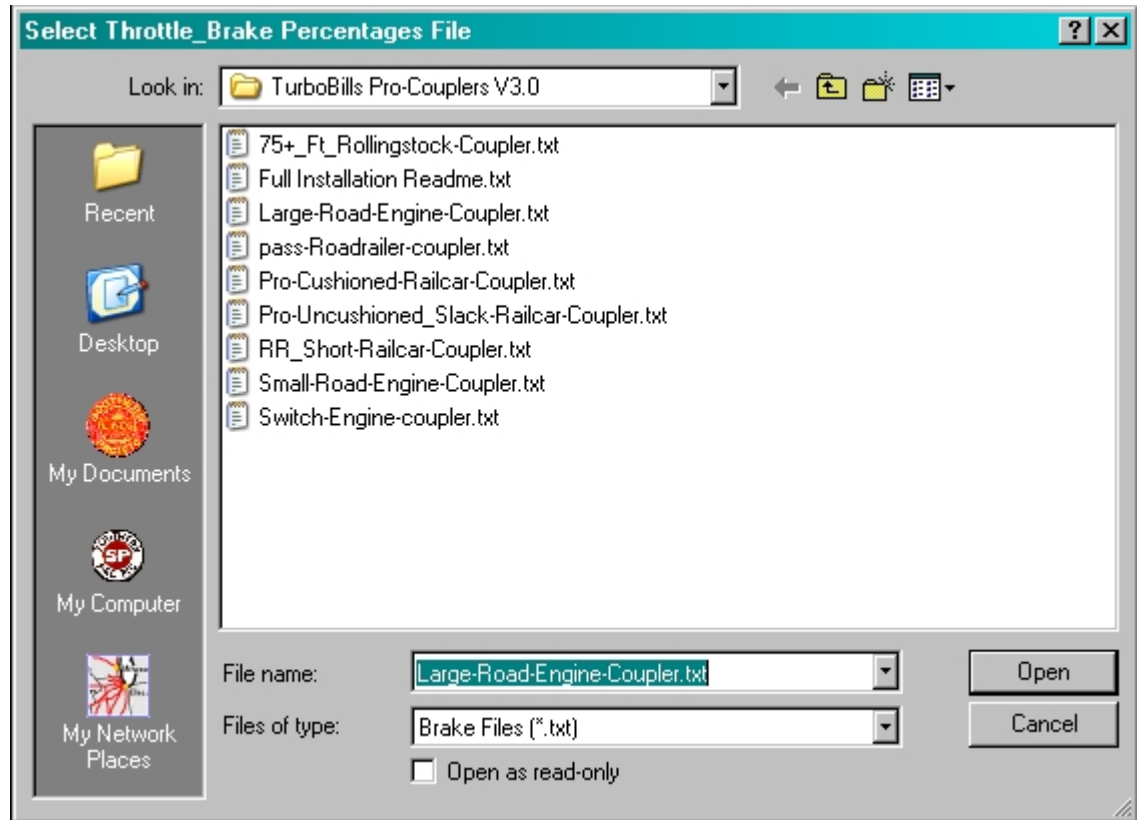
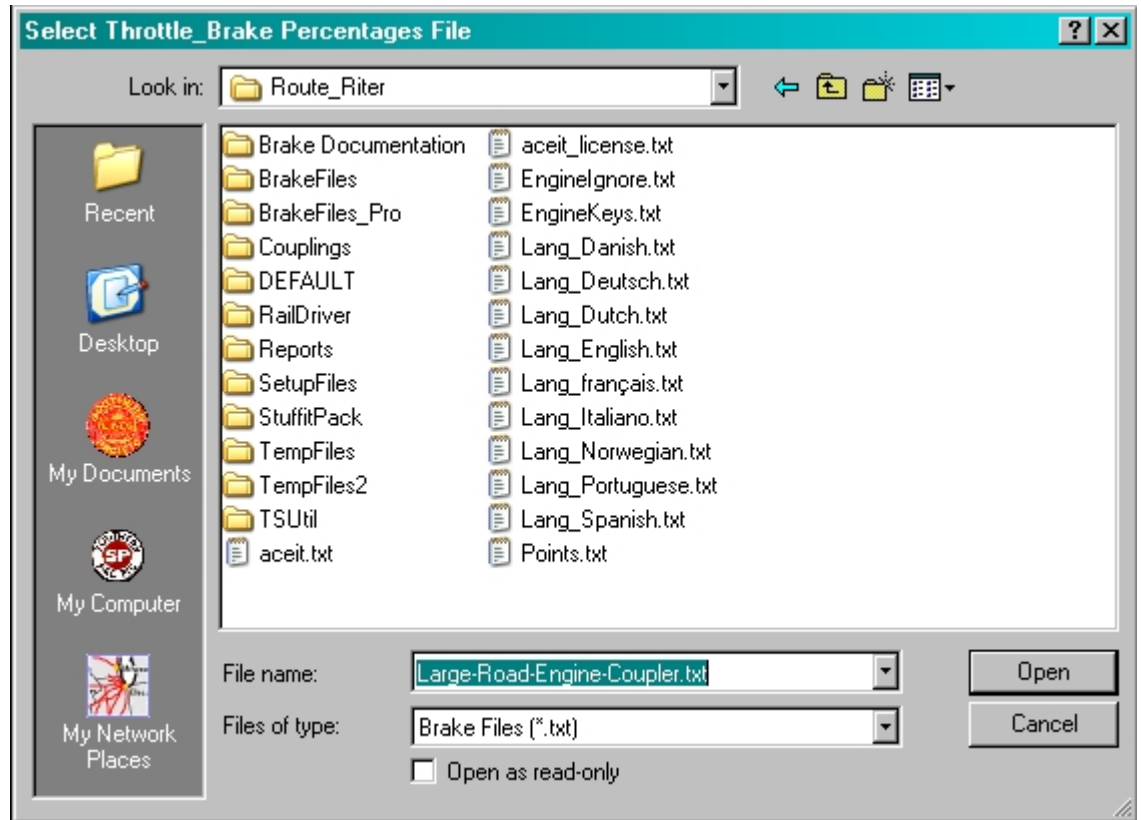

Figure 101
Figure 102
2. Now left-click on the "Pro throttle/Brake %" button. You will notice that the new window still shows the coupler files. See Figure 101.
3. Left click on the little folder with the "up" arrow in it near the top of the Figure 101 window to navigate back to the window shown in Figure 102.